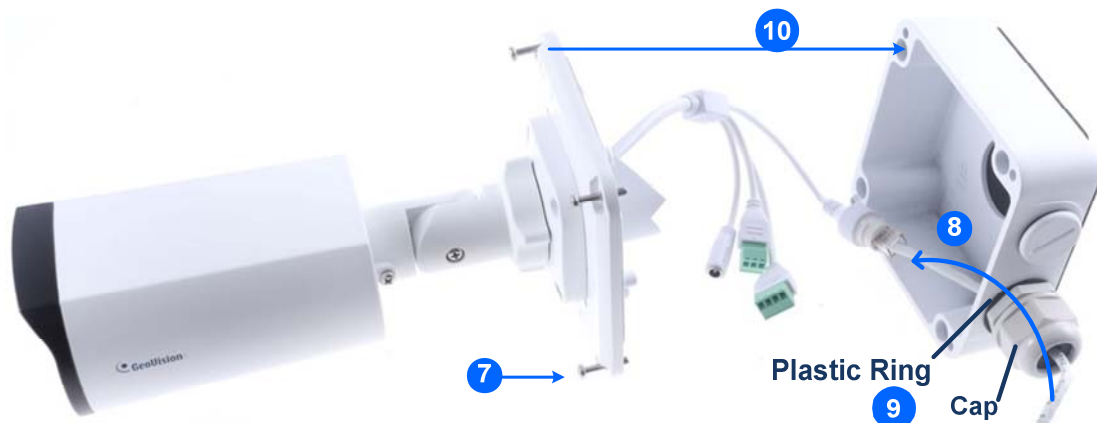

Figure 1-61
- Reattach the box cover to the power box, as shown in No. 7, *Figure 1-61*.
- Thread the Ethernet cable through the PG21 conduit connector and the power box as shown in No 8, *Figure 1-61*. Then connect the cable to the camera. To waterproof the cable, see *1.6 Waterproofing the Cable*.
- Rotate the plastic ring to secure the conduit connector to the power box. Secure in the cap, as shown in No 9, *Figure 1-61*
- Secure the box cover to the power box, as shown in No 10, *Figure 1-61*.
7. Thread the Ethernet cable through the center hole (proceed to Step 9) or through the PG21 conduit connector and the power box as shown in No 8, *Figure 1-61* (proceed to Step 8).
8. Rotate the plastic ring to secure the conduit connector to the power box. Secure in the cap, as shown in No 9, *Figure 1-61*.